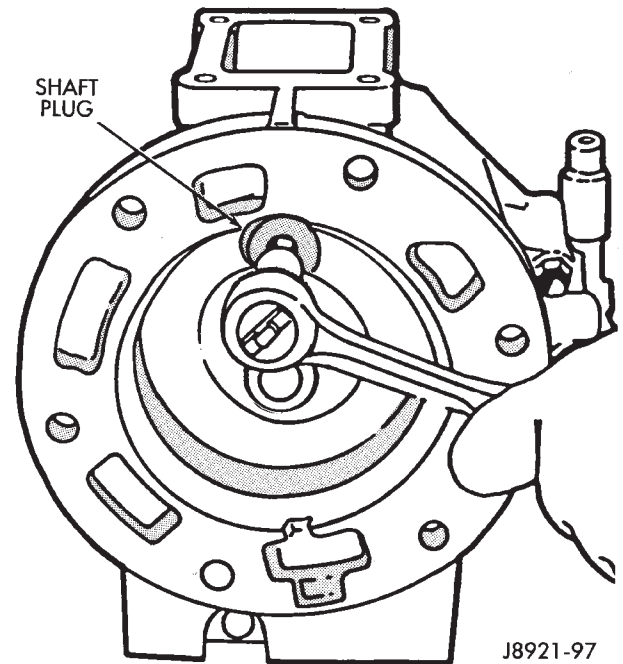

Fig. 42 Shifter Arm Shaft Plug Installation
- (14) Install and tighten shifter arm shaft plug to 18 N·m (13 ft. lbs.) torque (Fig. 42).